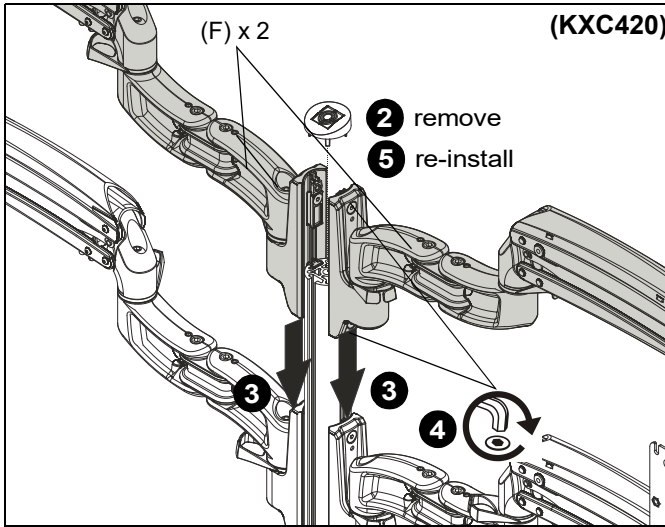

Figure 9
3. Slide arms (F) into column grooves at desired mounting height.
4. Tighten two screws on base of each arm to secure KXC420 arms (F) to column. (See Figure 9)